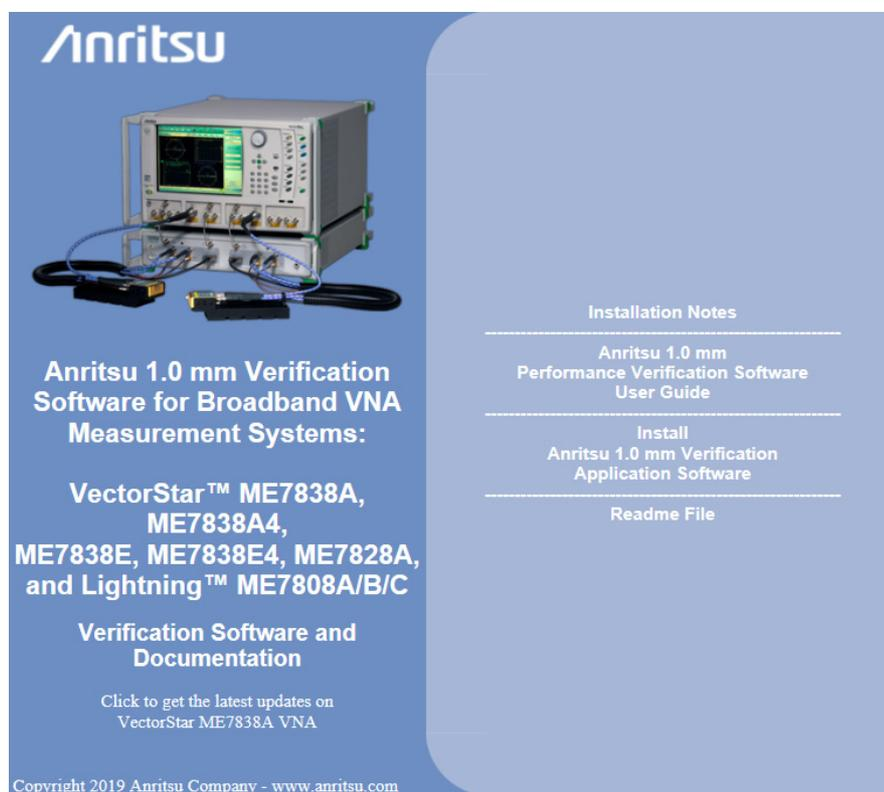

Figure 2-1. PVS Installation and Documentation Screen
11. The installer adds all required files and makes the necessary registry updates on the PC Controller. When done, the navigation page (Figure 2-1) reappears.